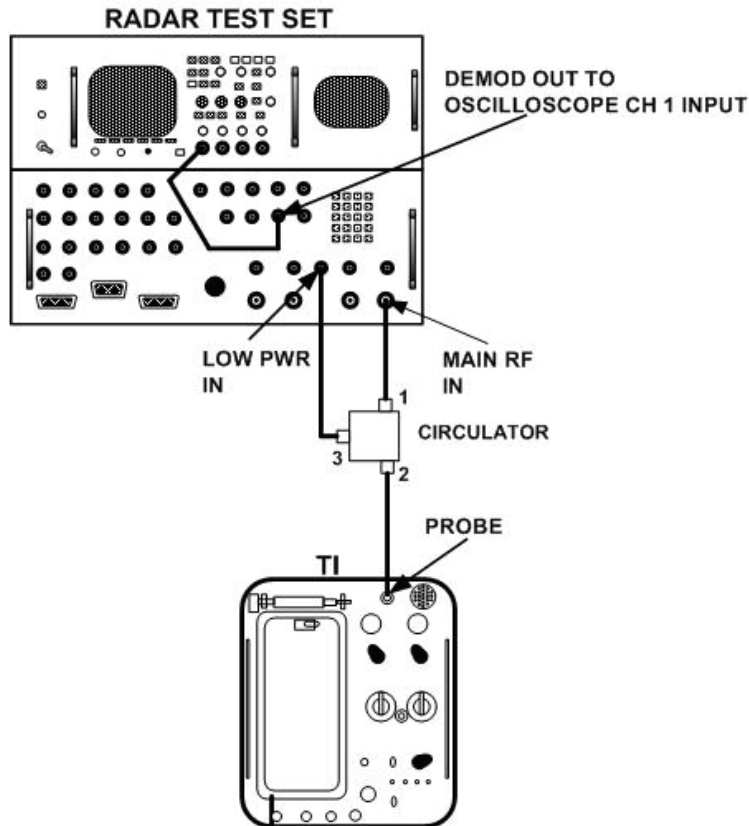

Figure 1. Preliminary equipment setup.
- b. Set switches as listed in (1) through (5) below:
- (1) **FUNCTION** switch to **SELF-TEST**.
- (2) **MODE** switch to **1**.
- (3) **REFERENCE CODE** switches to **7777**.
- (4) **ISLS** switch to **OFF**.
- (5) **MODE 4** switches to **DOWN** position.
- g. Connect equipment as shown in figure 1.
- h. Set radar test set (RTS) **INTERROGATOR Menus** as listed in (1) through (6) below. For the remainder of this procedure these settings will be identified as the **INITIAL RTS** settings.
- (1) **Menu 2 – M1** through **MC** to **OFF**.
- (2) **Menu 3 – REPLY SIGNAL** to **SIF**, **M2** through **MC** to **7777** and **ON**, **RANGE DELAY** to **0 μs**, **CHAL SOURCE** to **UUT**, **F2:** to **ON**, and **SIF2** to **OFF**.
- (3) **Menu 10 – MAIN FREQ** to **1090 MHZ** and **ON**.
- (4) **Menu 11 – MODULATION** and **1ST REPLY** to **ON**, all other settings to **OFF**.
- (5) **Menu 14 – PRF** to **267PPS** and **O TRIGGER** to **INTERNAL**.
- (6) **Menu 16 – SOURCE** to **LOW PWR**, and **RF** to **0**.